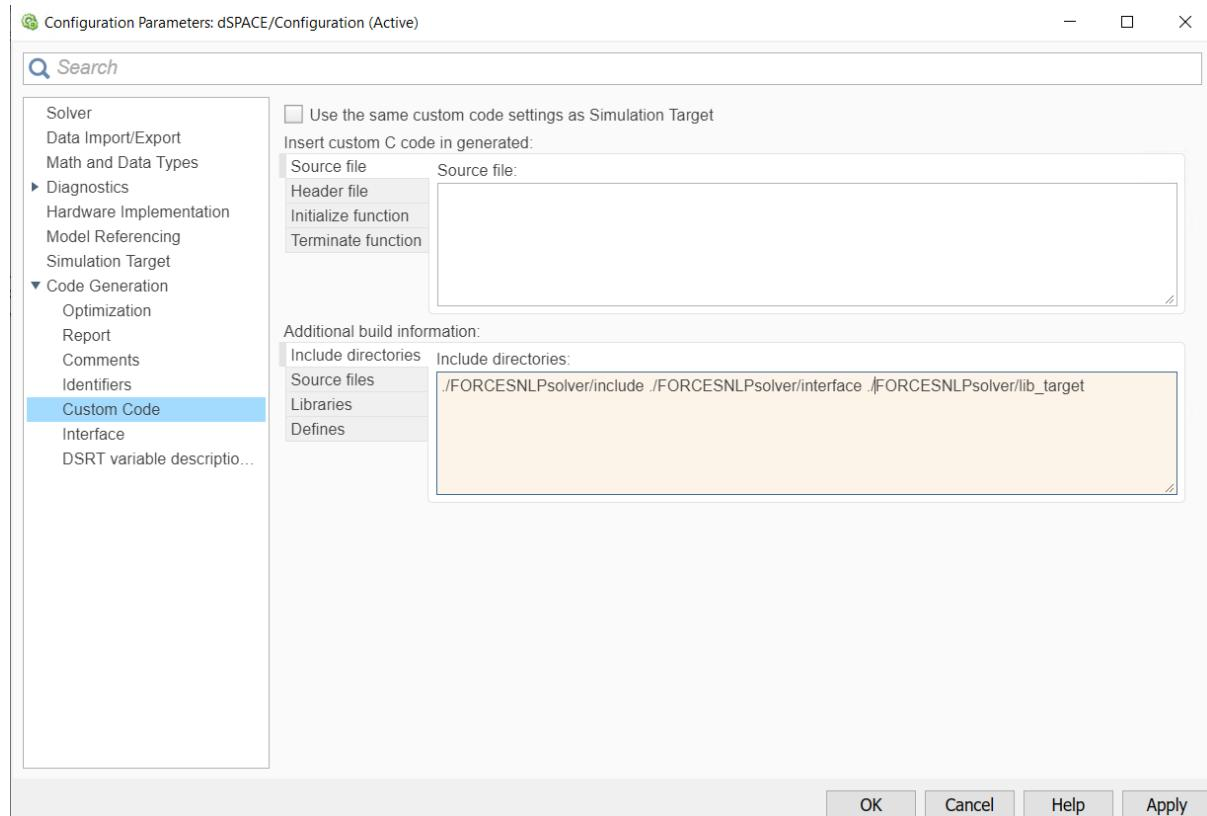

Figure 13.39: Add the directories included for the code generation.
- 10) In the “Code Generation/Custom Code” tab, include the directories (see Figure 13.39):